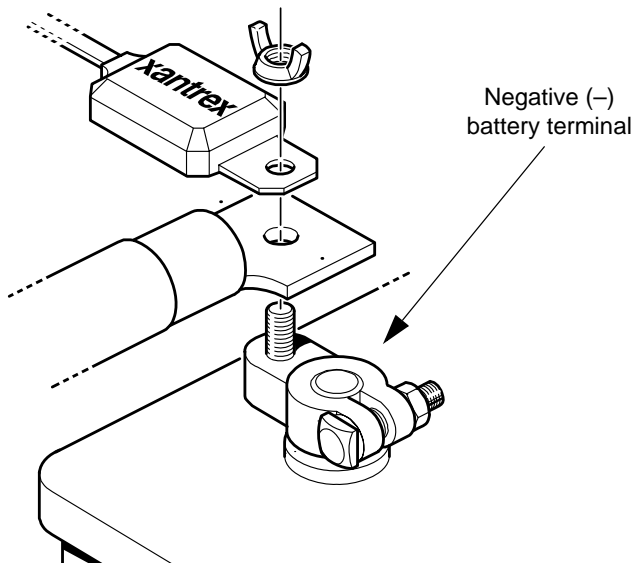

Figure 9 BTS Mounted on the Negative Battery Terminal
6. Mount the sensor directly on top of the ring terminal, as shown in Figure 9, and firmly tighten the terminal nut.